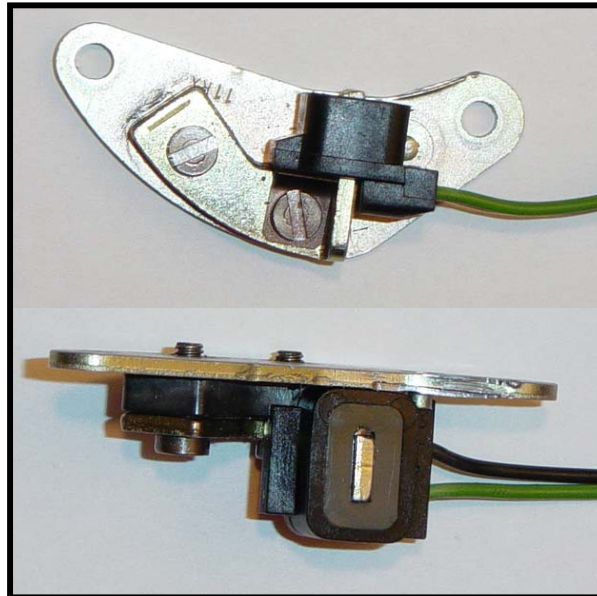

Figure 1 – Approved Suzuki Sensor
Many of the stock Suzuki crank position sensors can be used with the PE-ECU-1 engine management system, provided the ECU is specified for a 2-wire variable reluctance sensor when ordered. Sensors like the one shown in Figure 1 have been successfully tested with the system. Please contact Performance Electronics (PE) if you have a sensor different from the one shown in the Figure.